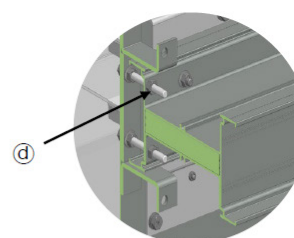

Figure 38. Guide pins nuts
4. Lock two pair of the guide pins nuts. (Figure 38, d)